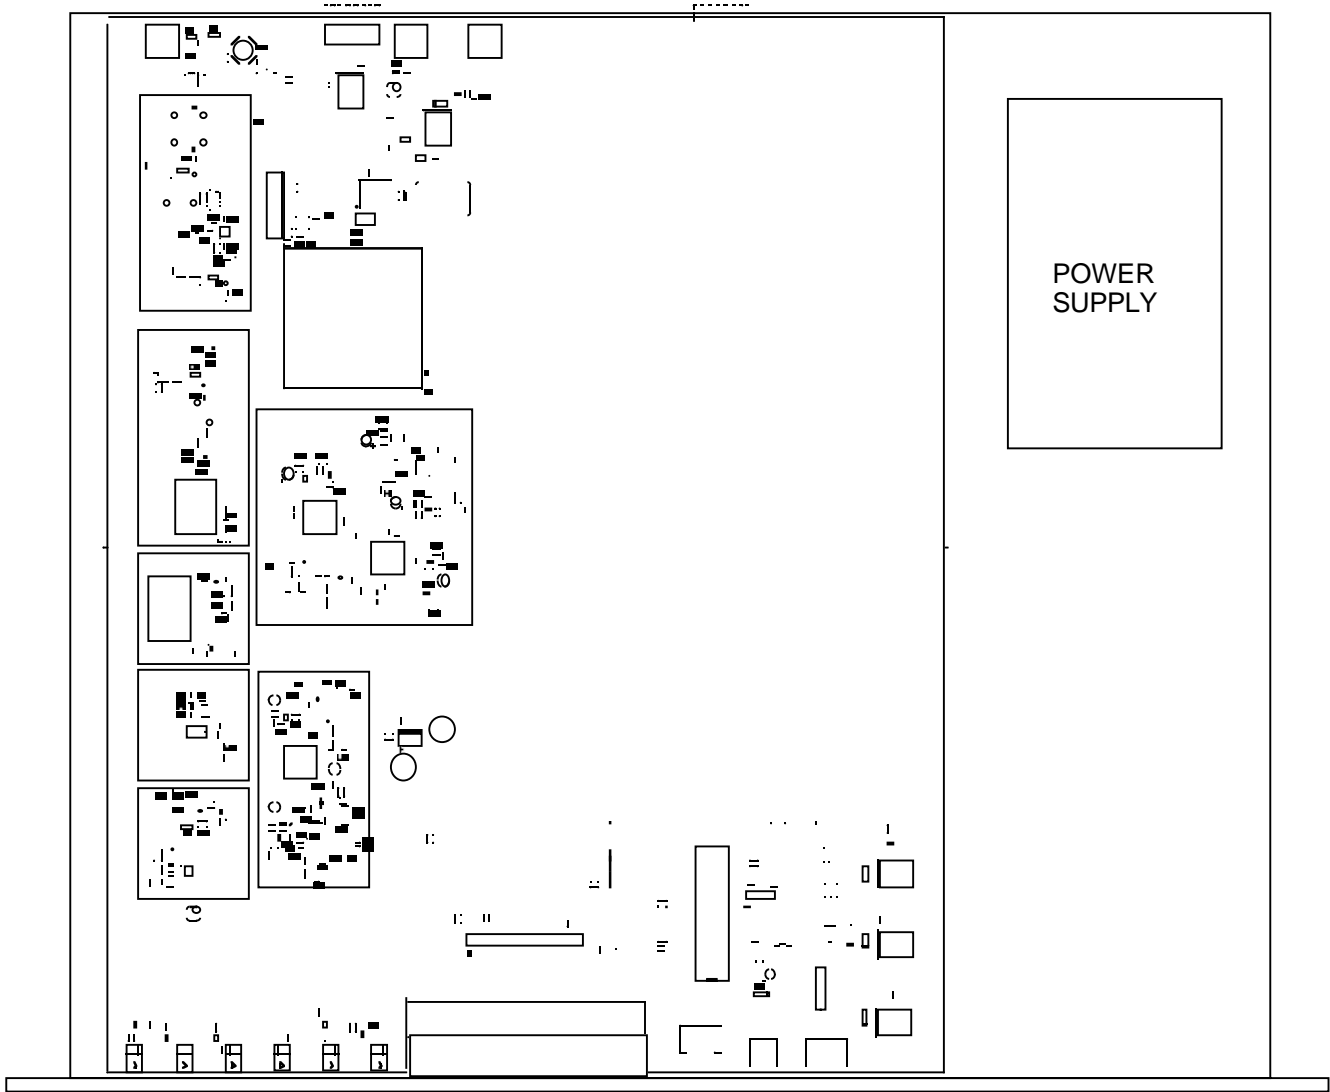

FIGURE 2.0 2015-04 Mechanical Assembly
2.1 Mechanical - The 2015-04 consists of one RF/Controller PCB housed in a 1 RU (1 3/4 inch high) by 16 inch deep chassis. A switching, ± 12 , +24, +5 VDC power supply provides power for the assemblies. The 2015-04 can be secured to a rack using the 4 holes on the front panel. Figure 2.0 shows how the 2015-04 is assembled.